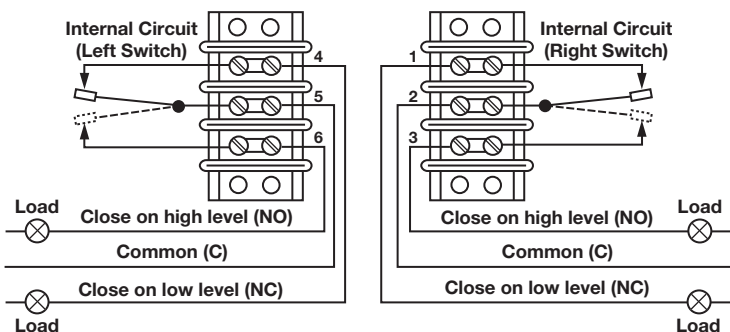

Figure 13
1. Rising level closes contacts 5 & 6 and 2 & 3, see Figure 13.